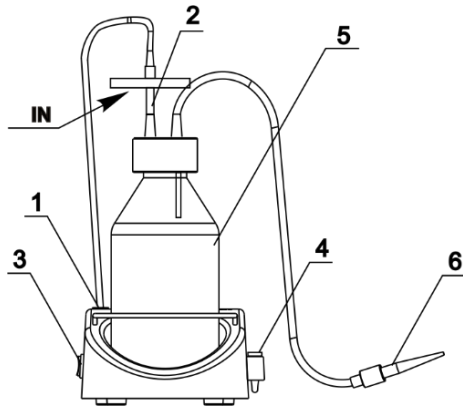
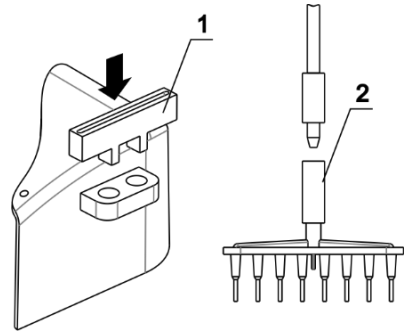

Figure 1. Assembled FTA-1
Figure 2. Installation of MA-8 aspiration tip
- Install the trapping flask (fig. 1/5) on the unit.
- Assemble the lid, aspiration tubing and filter set (fig. 1/2). Attach aspiration tip (fig. 1/6) to the tubing.
Caution! Position the filter with the **IN** marking pointing towards the unit (fig. 1/2).
- Connect the filter tubing to the pump (fig. 1/1) located at the top of the base behind the trap flask, by turning the fitting clockwise.
- Place the microtubes for aspiration tip into the holder (fig. 1/4).
4.3.1 **Optional MA-8 aspiration tip installation.** Remove microtubes and aspiration tip from the holder (fig. 1/4). Place MA-8 storing holder (fig. 2/1) into the holder. Remove aspiration tip (fig. 1/6) from the aspiration tubing and connect the **MA-8** aspiration tip (fig. 2/2). Store the aspiration tip in the new holder.
- 5.2 Turn the **Power** switch (fig. 1/3 or 7/2) to the position **I** (on). The pump starts working.
- 5.4 Touch the surface of the liquid with the aspiration tip (fig. 1/6, 5/1 or **MA-8**) to remove the liquid.